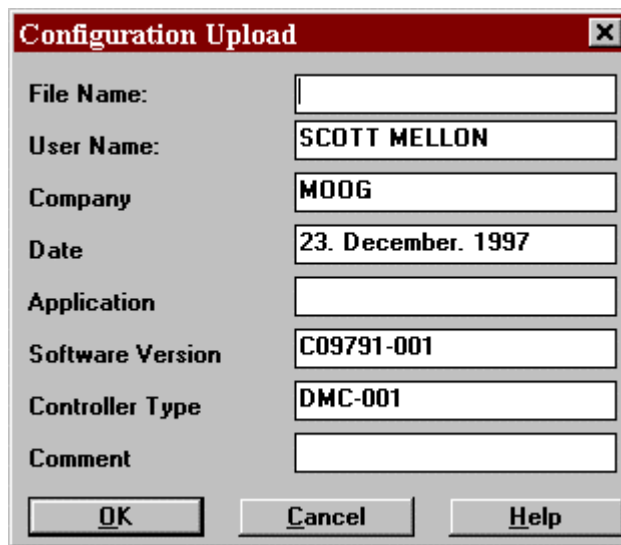

FIGURE 4.29 Configuration Upload Dialog Box
- In the *Configuration Upload* dialog box (FIGURE 4.29) fill in the following information: